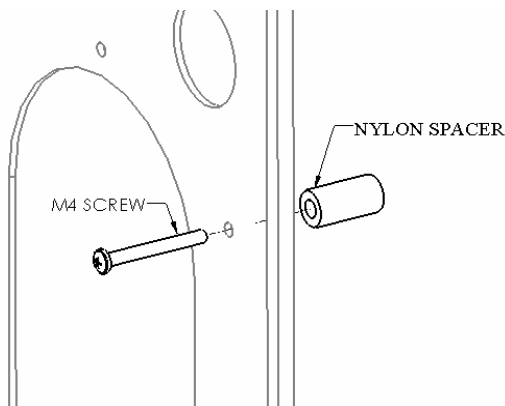
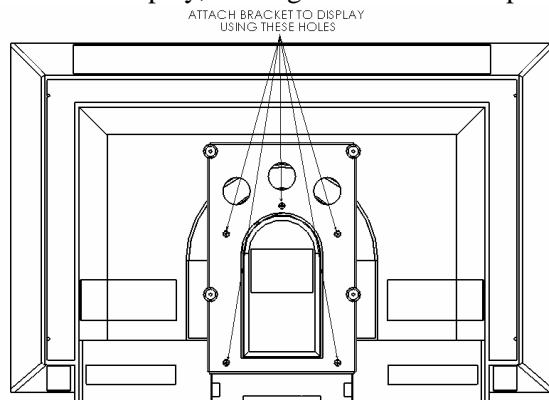

Figure 4
Figure 5
- Place Nylon spacers on mounting holes, aligning hole pattern on brackets with pattern on back of LCD Display (see Figure 4 & Figure 5).